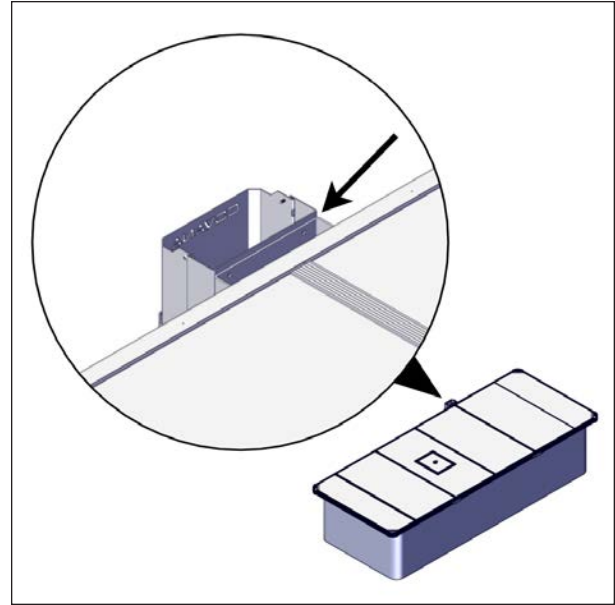

FIGURE 74: POST MOUNT BRACKET ALIGNMENT WITH THE SLEEVE
4. Gently install the sleeve on the ground so it is in contact at the top with the post mount bracket, see Figure 74.